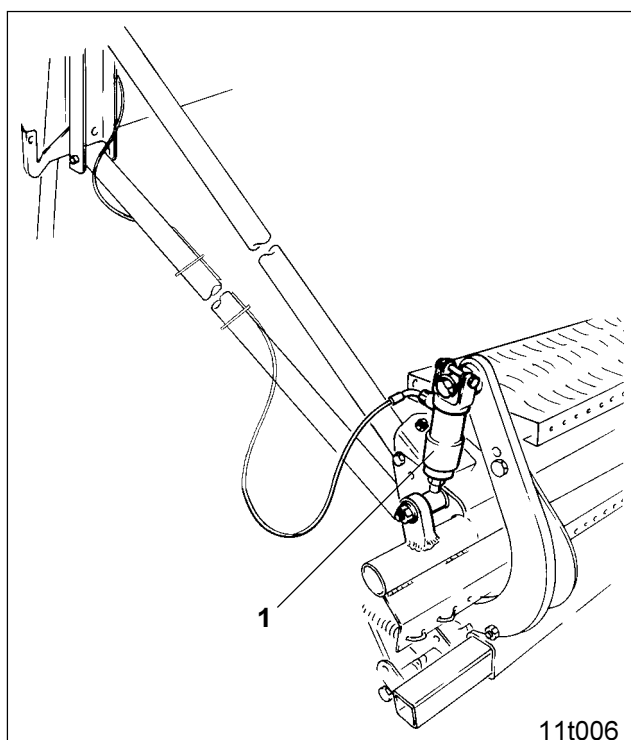
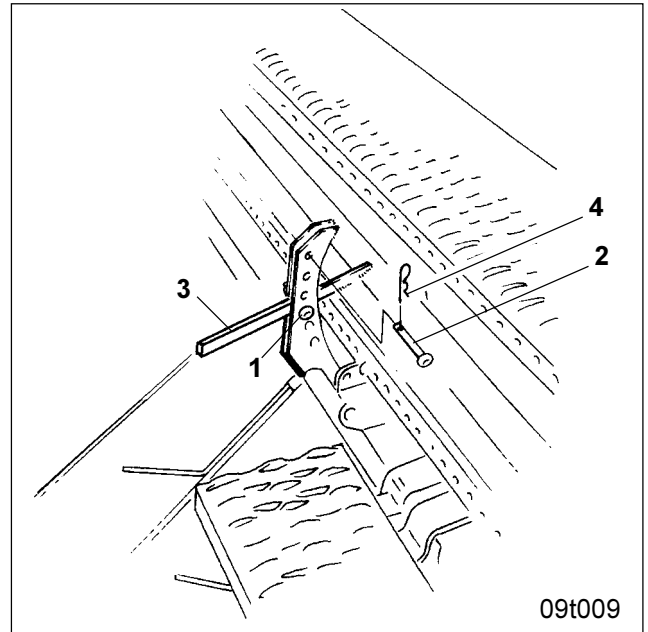

Fig. 25.9
Fig. 25.10
When changing from normal soil to heavy soil or vice versa, the coulter pressure is readjusted by a hydraulic ram (Fig. 25.9/1).
Two pins (Fig. 25.10/1 and Fig. 25.10/2) are placed as a stop for the lever (Fig. 25.10/3) in the setting segment. The lever (Fig. 25.10/3), which is actuated by the hydraulic ram (Fig. 25.9/1) rests on the pin I (Fig. 25.10/1) when the hydraulic ram is without pressure and it stops on pin II (Fig. 25.10/2) when the hydraulic ram has been pressurised.
- Relieve the hydraulic ram (Fig. 25.9/1) from pressure.
- Insert pin II (Fig. 25.10/2) into a hole above the lever (Fig. 25.10/3) in the setting segment and secure by using a clip pin (Fig. 25.10/4).
- Pressurise hydraulic ram (Fig. 25.9/1).
- Insert pin I (Fig. 25.10/1) into a hole eine Bohrung im Verstellsegment unterhalb des Hebels (Fig. 25.10/3) einstecken und mit einem Federstecker (Fig. 25.10/4) sichern.